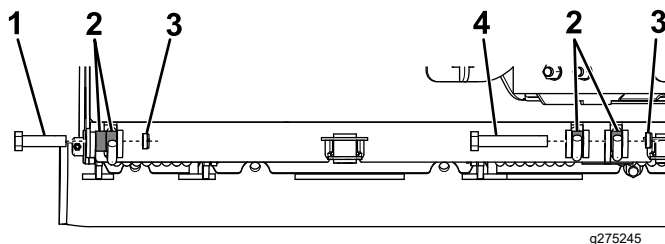

Figure 54
4. Place the end of a strong pipe on the upper spring leg and move it enough to fully insert the tension pins, sliding the bushings between the tension pin brackets (Figure 54). Gently return the spring to a resting position.